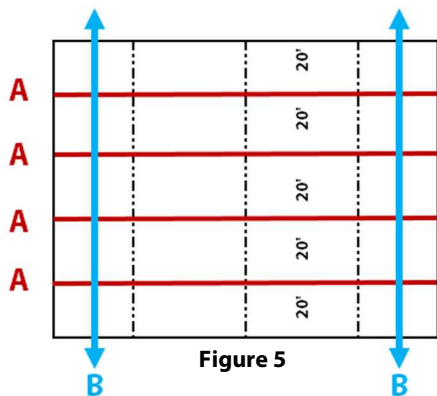

Figure 5
At 20' (6m) intervals, install the grounding straps (Figure 5, Part A) into wet adhesive the entire width of the room running perpendicular to the direction of the Marmoleum® Ohmex sheets. At each of the side walls, run a grounding strap parallel to the Marmoleum® Ohmex sheets (Figure 5, Part B). These straps (Figure 5, Part B) should run the entire length of the room and overlap the straps (Figure 5, Part A). Leave enough additional grounding strap at the ends to connect to the building ground. Spread additional adhesive on top of the grounding straps and install the material over it. The grounding straps should be grounded to the building by a licensed electrician.
**NOTE: If the installation will exceed 1,000 square feet (93 square meters), one additional grounding strap (Figure 5, Part B) must be installed and grounded. For every additional 1,000 square feet, install one additional grounding strap.**